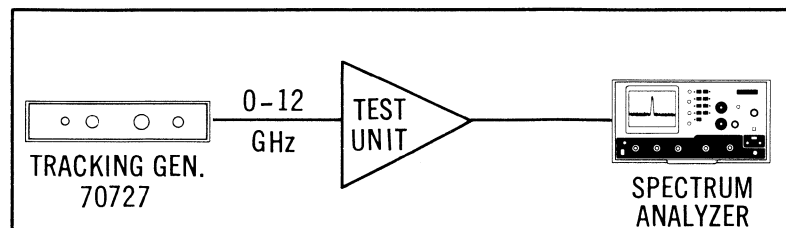

Figure 17 Frequency Response Measurement
- A. For frequencies below 12 GHz, a Tracking Generator will supply a test signal that is synchronized to the analyzer. When used, as illustrated in Figure 17, the frequency response of the unit under test will be displayed on the screen of the CRT.